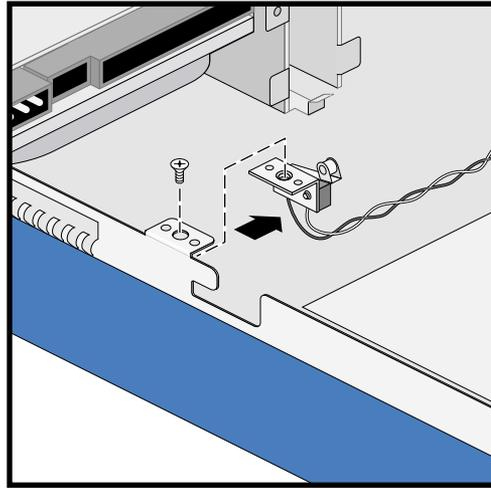

Figure 2-24 Removing the Intrusion Alert Microswitch Cable Module
3. Remove the screw from the intrusion alert microswitch cable module as shown in Figure 2-24.
4. Remove the intrusion alert microswitch cable module from the system as shown in Figure 2-24.